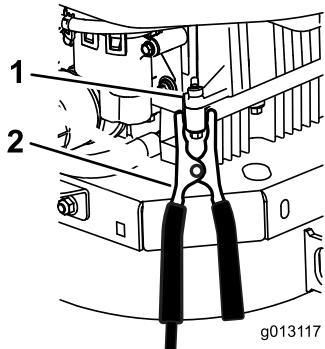

Figure 64
6. Make the final connection on the engine block of the stalled vehicle (not to the negative battery post) away from the battery and stand back (**Figure 64**).